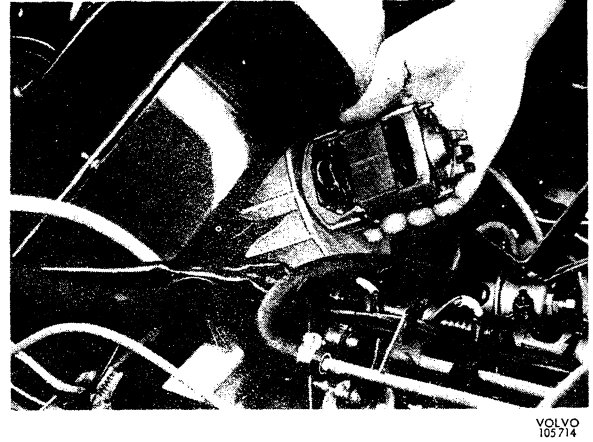

Fig. 8-49. Taking out fan motor
5. Pull out the motor as far as possible from the heater and unscrew the motor mounting plate. The fan motor can then be taken out of the heater (see Fig. 8-49).